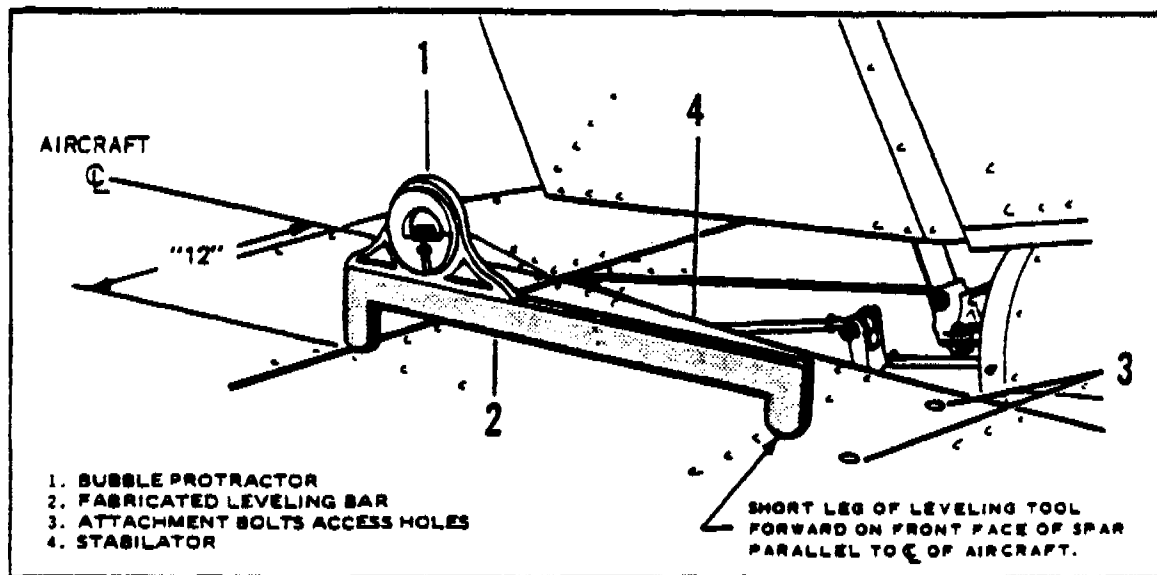
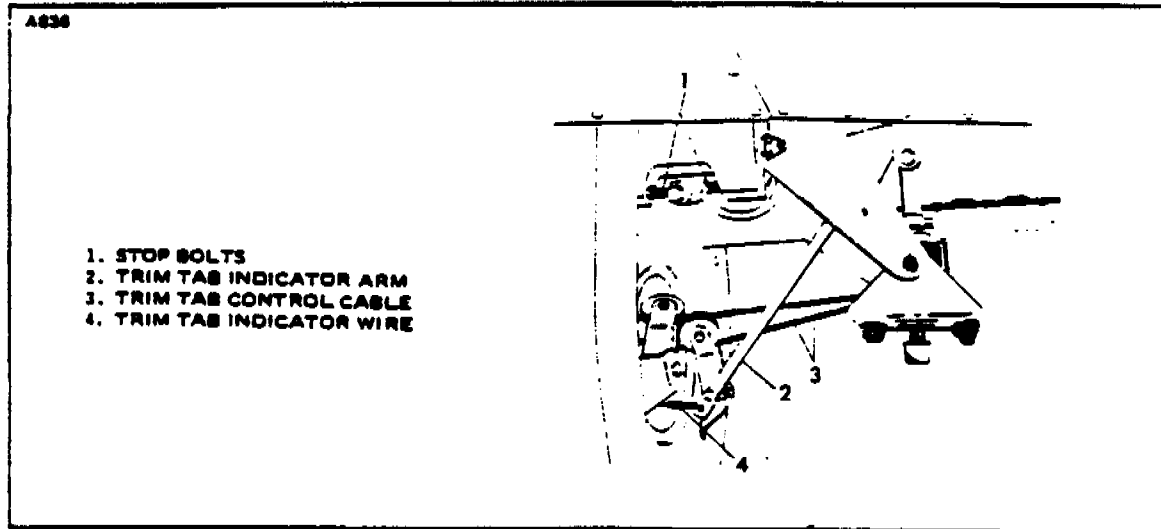

FIGURE 5-11. CHECKING STABILATOR TRAVEL
FIGURE 5-12. STABILATOR ADJUSTMENT POINT
b. With the aircraft level, determine the level position of the stabilator by use of a bubble protractor on a special leveling tool placed on the stabilator per dimensions in Figure 5-11. The leveling tool may be fabricated per dimensions given in Figure 5-13. Set the stabilator travel by adjusting the stop bolts at the torque tube horn (refer to Figure 5-12) and measuring the degree of travel with the bubble protractor on the leveling tool. Travel dimensions from level are given in Table V-1.